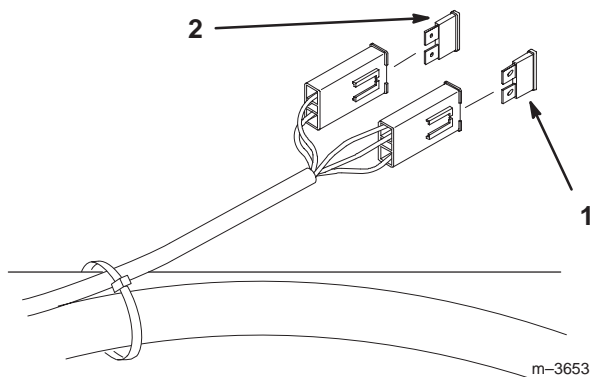

Figure 57
1. Raise the seat to gain access to fuse holder (Fig. 57).
2. To replace fuses pull out on the fuse to remove it (Fig. 57).